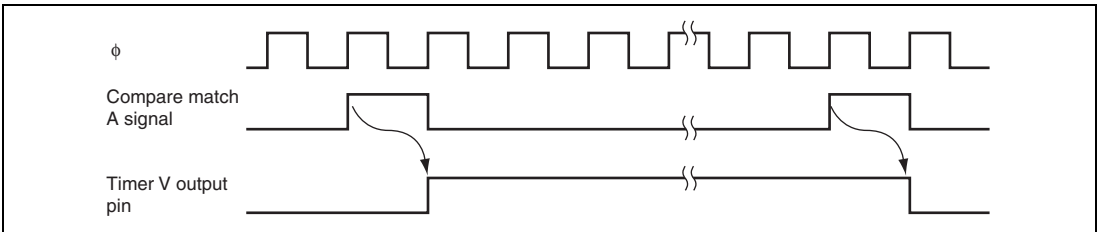

Figure 11.6 TMOV Output Timing
4. When a compare match A or B is generated, the TMOV responds with the output value selected by the OS3 to OS0 bits in TCSR.V. Figure 11.6 shows the timing when the output is toggled by compare match A.